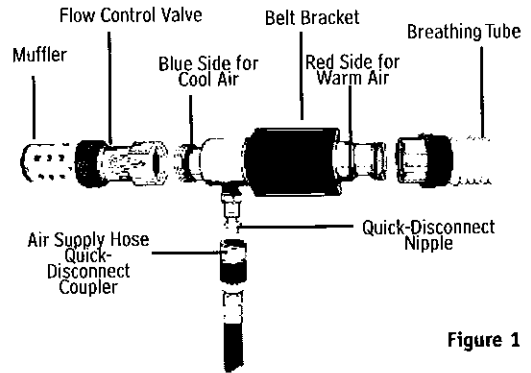

Figure 1
- Screw the flow control valve and muffler onto the blue side of the HC2400 Tube (Figure 1). Tighten both connections firmly.
- Screw the nylon hose connector on the end of the breathing tube onto the BLUE side of the HC2400 Tube (Figure 1). Tighten firmly.
- Turn flow control valve to adjust the flow and temperature of incoming air (Figure 1). Maximum cooling or warming is attained when knob is fully open and when there is maximum airflow out of the HC2400 exhaust port.